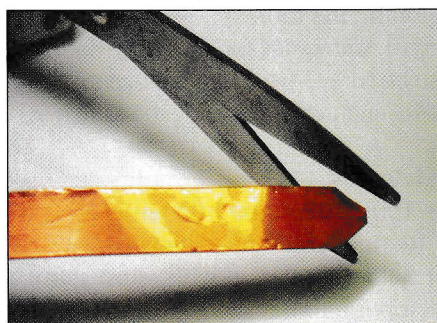

Fig. 2
2. Use a ruler to measure the perimeter of the glass pieces. Cut a length of foil 1" longer than the amount you'll use for the project and taper the end to help the folded corners lay better (Fig. 2).